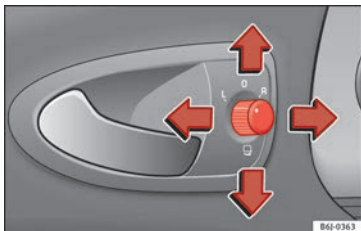

Fig. 123 Exterior mirror controls.
1. Turn knob »» **Fig. 123** to position **L** (**left exterior mirror**).
- Turn the control »» **Fig. 123** to position to fold in the exterior mirrors. You should always fold in the exterior mirrors if you are driving through an automatic car wash. This will help prevent damage.